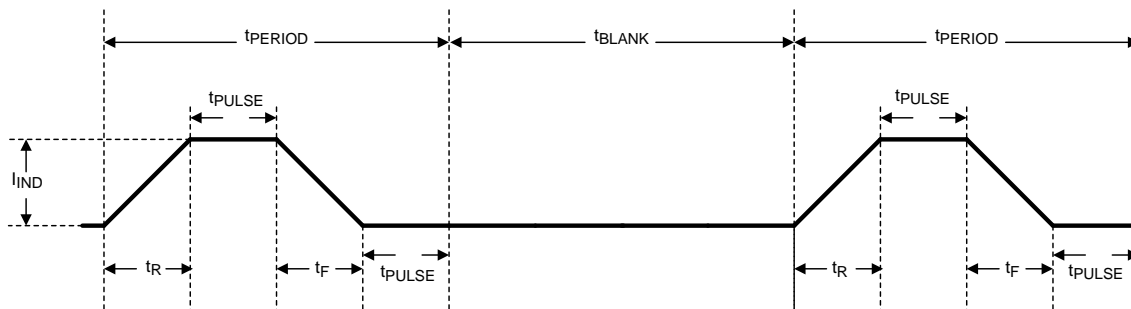

Figure 23. Message Indicator Timing Diagram
2. Number of periods (PERIOD #). This has 8 steps. A period (t_{PERIOD}) is found by $t_{PERIOD} = t_R + t_F + 2 \times t_{PULSE}$. (see Figure 23 for indicator timing).